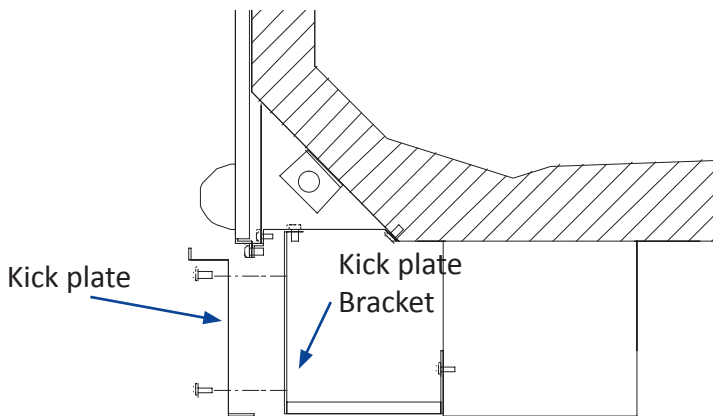

Fig 6. Kickplate Installation
- After cases have been leveled and joined, and all drain piping, electrical and refrigeration work has been completed then install the kickplate as shown Fig. 6